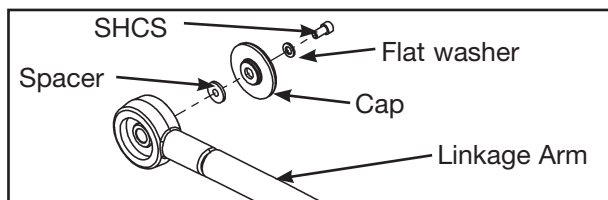

Figure 2
- A. Using a 3/16" Allen wrench, remove the SHCS, flat washer, cap and spacer securing the linkage arm. See Figure 2.
- A. Reinstall SHCS, flat washer, cap and spacer that was removed in step 3A. See Figure 2. **NOTE:** SHCS must be tightened to a minimum of 100 inch-pounds.